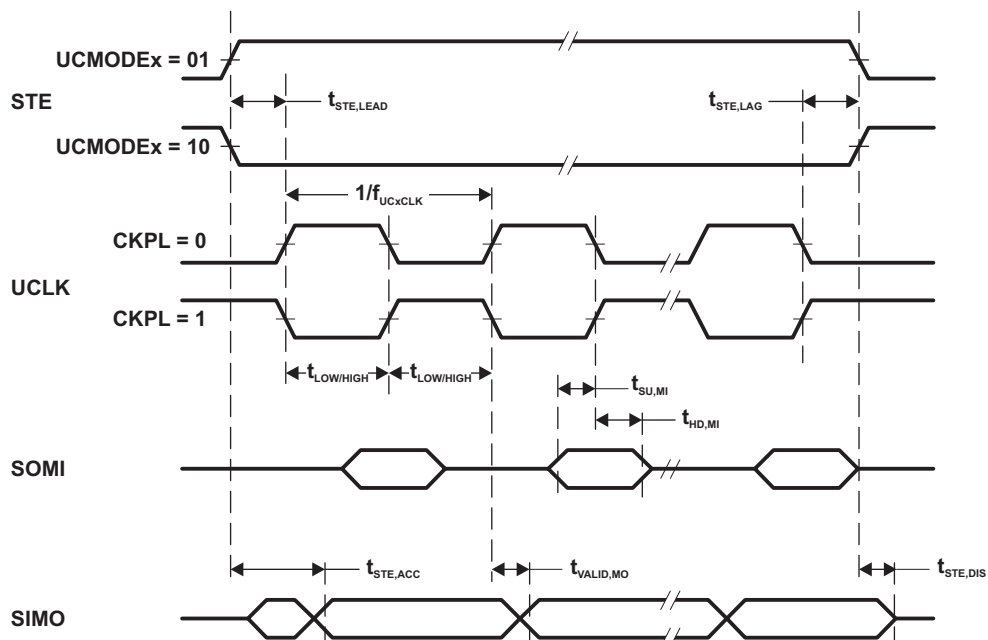
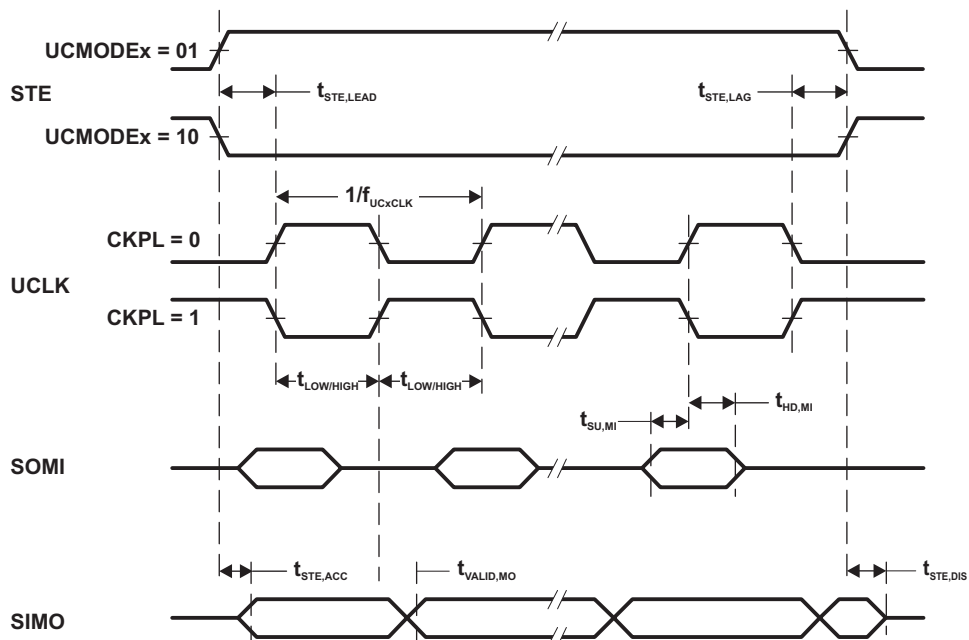

Figure 5-6. SPI Master Mode, CKPH = 0
Figure 5-7. SPI Master Mode, CKPH = 1
- (2) Specifies the time to drive the next valid data to the SIMO output after the output changing UCLK clock edge. See the timing diagrams in Figure 5-6 and Figure 5-7.
- (3) Specifies how long data on the SIMO output is valid after the output changing UCLK clock edge. Negative values indicate that the data on the SIMO output can become invalid before the output changing clock edge observed on UCLK. See the timing diagrams in Figure 5-6 and Figure 5-7.